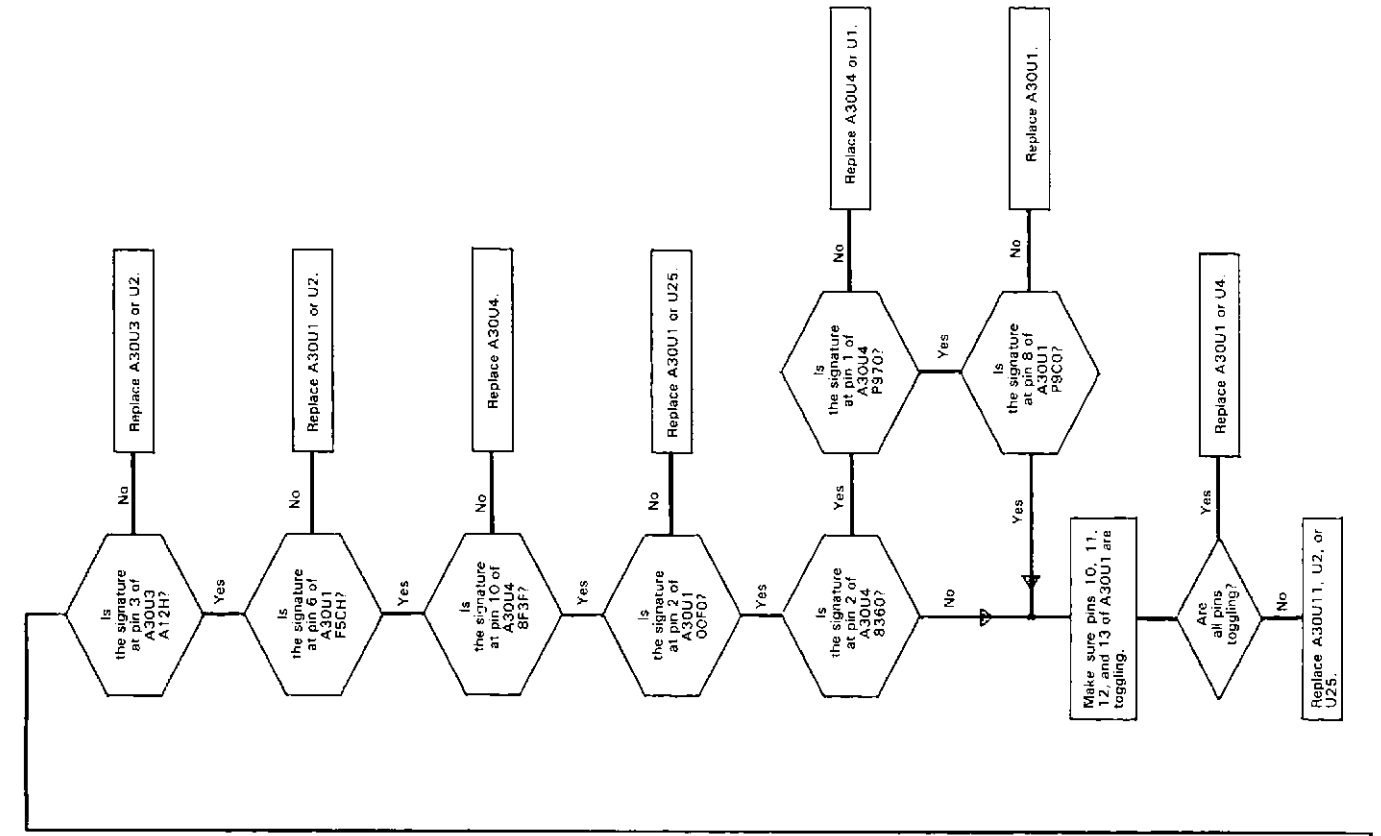

Figure 8-B-4. Ingward Signature Analysis Routines. Rev B 8-B-11/8-B-12
e. If the waveform is good, check for the waveforms shown in Figure 8-B-6A and B at A30TP1 and TP2, respectively. Make sure the waveforms are as shown in the figure.